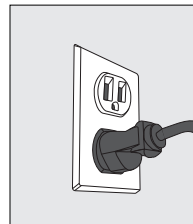

Figure 9
5. Ensure that the available power supply matches the cooler's voltage specifications indicated on the nameplate label (located at the rear). Plug power supply cord into receptacle (Figure 9). Please ensure that cooler is set up so as access to the power outlet and plug is unobstructed.